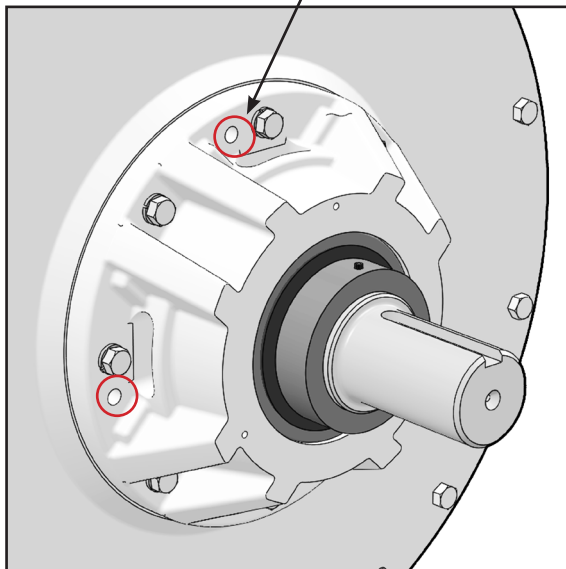

FIGURE 10
9. If bearing cartridge will not release from shaft, thread two or four 3/8"-16 x 4 1/2" jack bolts into opposing threaded cartridge holes to contact endplate (Figure 10 & 11).